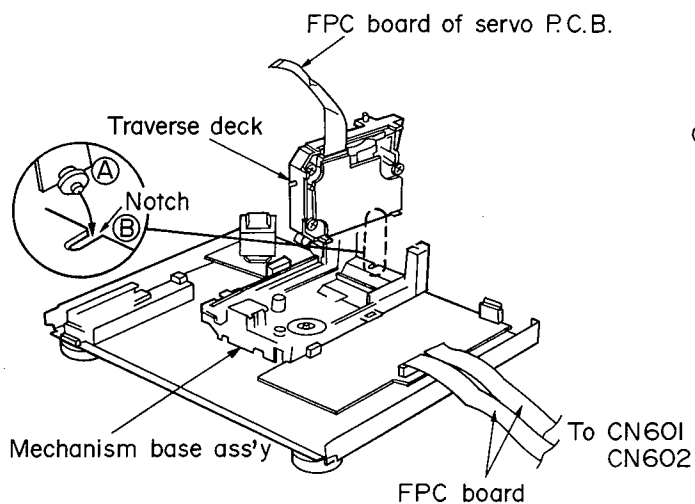

Fig. 7
1. Connect the FPC boards in the same manner as described in (A) above.
2. Insert part (A) of the traverse deck into notch (B) of the mechanism base ass'y as shown in Fig. 7.